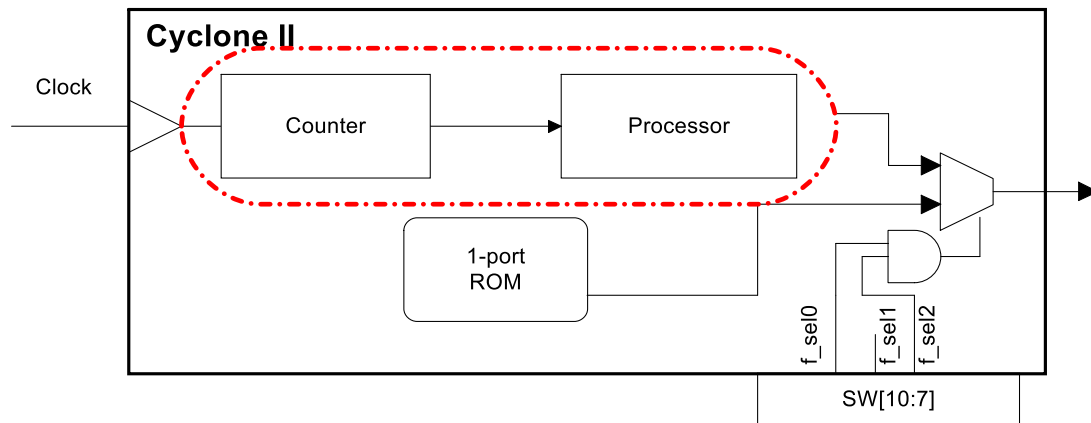

Figure 6: Block diagram of Waveform generator
C) To generate the arbitrary function, you should use a 1-port ROM memory to store the value of the desired signal at each increment inside the memory addresses. You will receive a file named "arbitray.mif" that is used for ROM initialization. Refer to the Appendix A to learn about ROM memories and the way they are generated and initialized through MegaWizard in Quartus II. Figure 6 shows the block diagram of the waveform generator module.